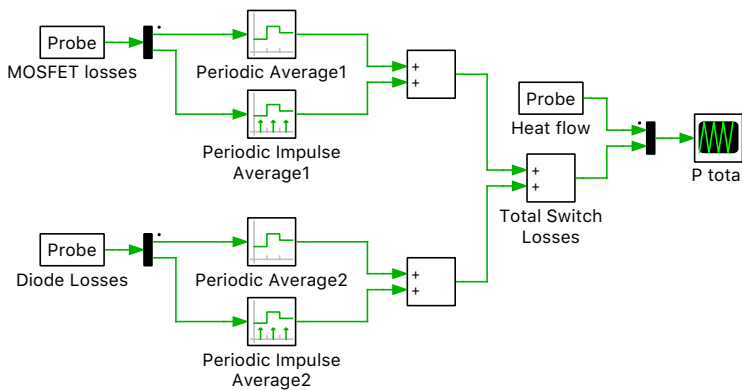

Figure 5: Calculating the average device losses and the total circuit losses using the PLECS averaging components
- 1 The PLECS component library contains blocks in the Controls > Filters list that can be used to measure the average losses. The Periodic Average block is suited for determining average conduction losses of semiconductors while the Periodic Impulse Average will determine the average switching losses. Place two of each into the model and provide the appropriate loss signals for the MOSFET and diode to them using PLECS Probe blocks. Ensure that you drag each semiconductor into its own probe and select the conduction and switching loss signals. Using Sum blocks, add the signals to obtain the total MOSFET losses, total diode losses, and total overall losses, as shown in Fig. 5.